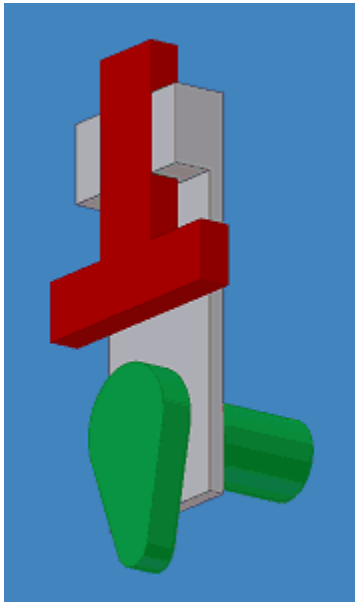

Figure 7: A flat-faced follower.
1. Open the assembly file BF-03-03.iam, which looks like Figure 7.